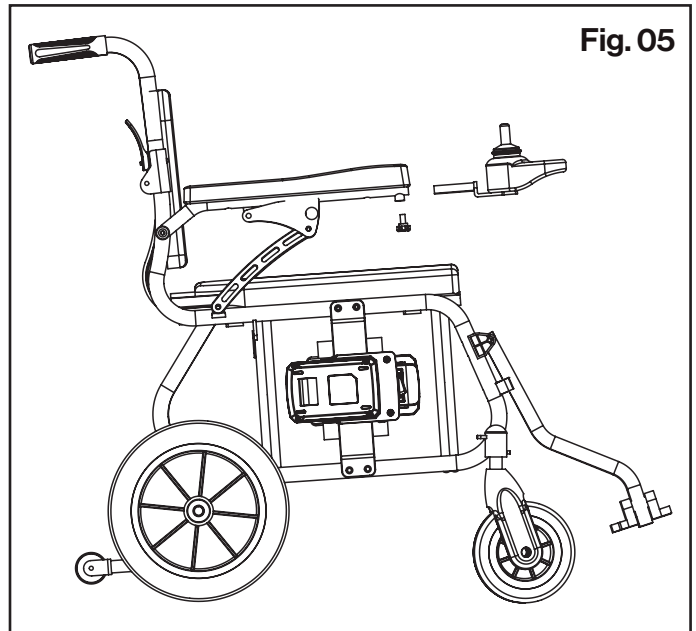

Fig. 05
- a. Insert the pipe of the Joystick controller into the fixing pipe at the lower of the right armrest pipe of the wheelchair (**Fig.05**).